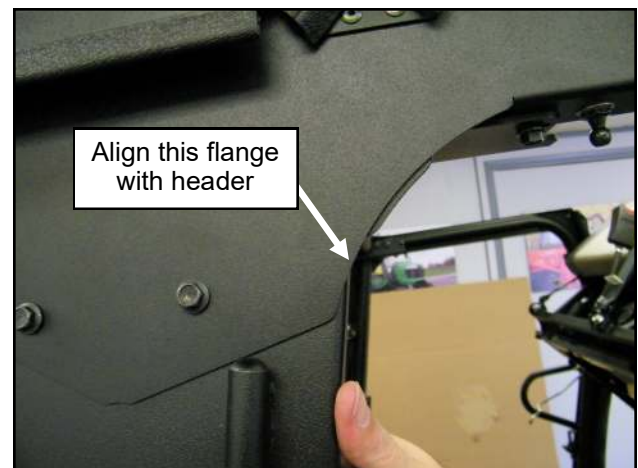

Fig. 13.3 B-panel alignment
13.3 Align the B-pillar upper rear flange flush to the side header per figure 13.3 and tighten the (5) bolts for each B-pillar to the side header.